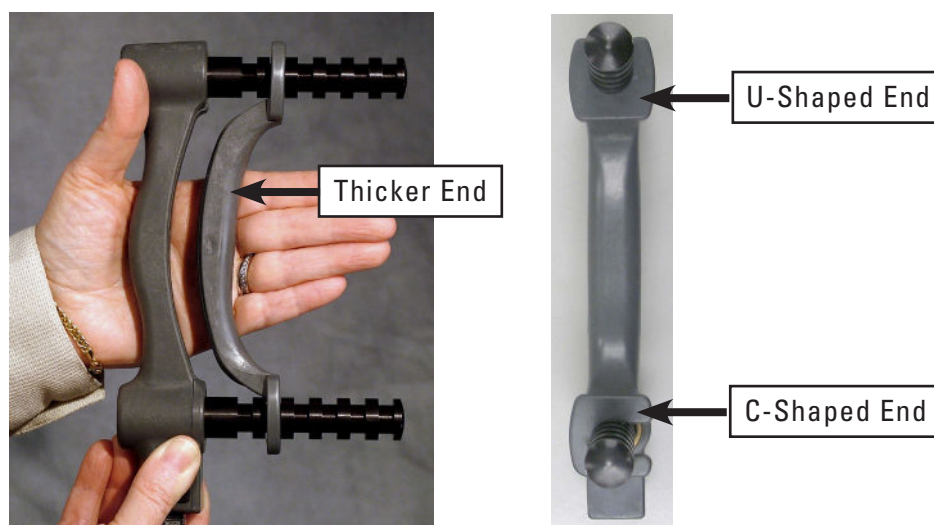

Figure 5-3. Proper Grip Positioning
1. The end of the Hand Grip base where the cord attaches should be facing down (Figures 5-3 & 5-4).